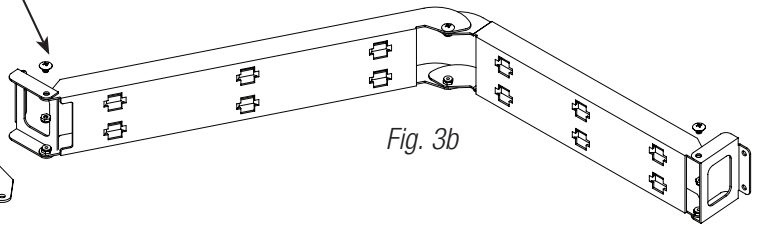

Fig. 3b
3. Attach the hinge brackets to the ends of arms using bolts and nuts positioning them as shown on (*Fig. 3b, pg. 3*).